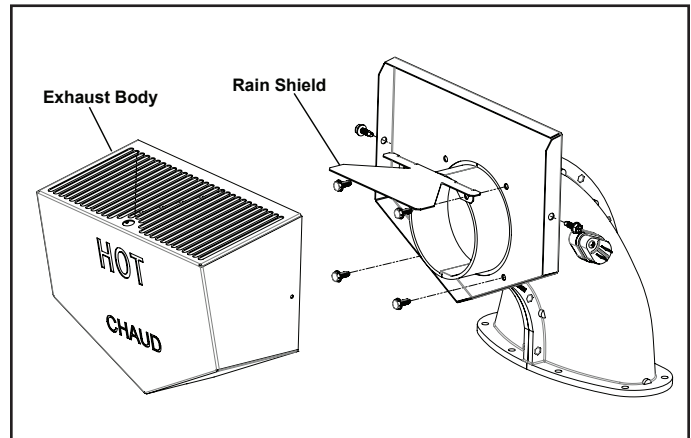

Figure 5. Remove Exhaust Body and Rain Shield
2. Remove the rain shield. See “Figure 5. Remove Exhaust Body and Rain Shield” on page 11.